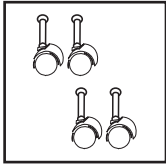
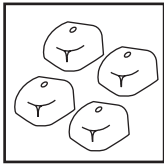

FIGURE 1
FIGURE 2
1. You will find four casters **FIGURE 1**, four caster feet **FIGURE 2**, and four screws with your wet/dry vacuum.